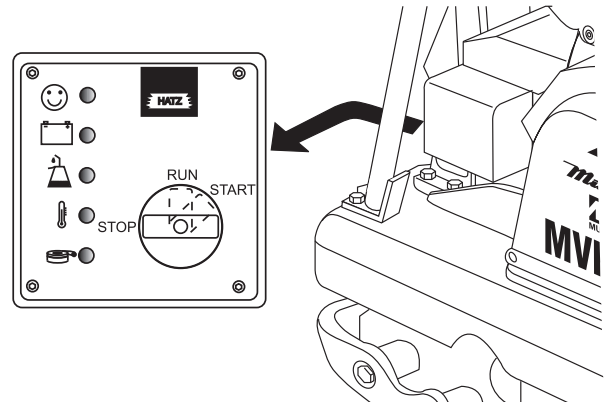

Figure 9. Starter Switch
2. Insert the starter key into the key switch and turn it to the **RUN** position (Figure 9).
1. Return the throttle lever to the **START** position (Figure 9). Allow the machine to cool down for 2 to 3 minutes.